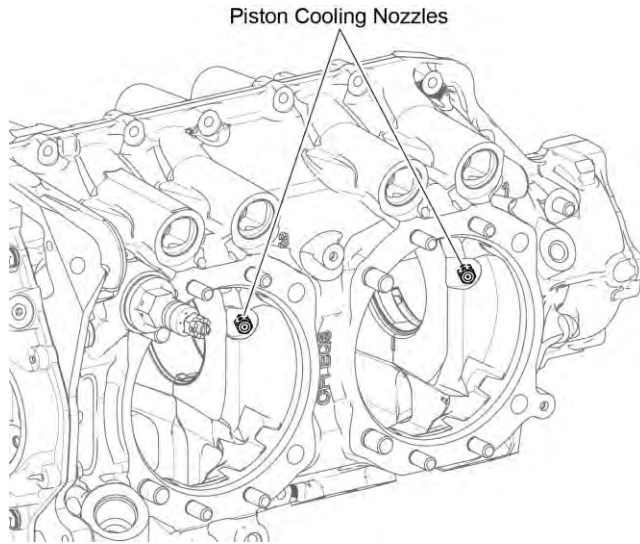

Figure 18
- (1) Remove the four piston cooling oil nozzles from the crankcase (Figure 18).